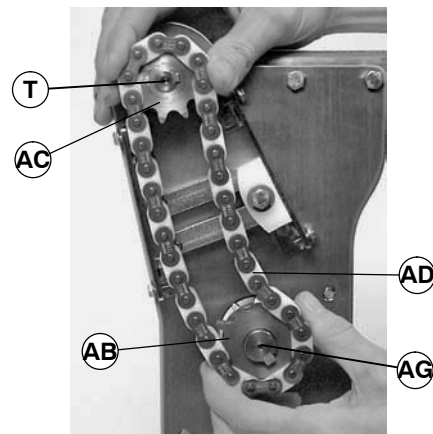

Figure 26
**NOTE:** Make sure sprocket keys are installed on conveyor input shaft (T of Figure 26) and gearmotor output shaft (AG).
6. Install new timing chain (AD) over sprockets (AB and AC). Install timing chain and sprockets on conveyor input shaft (T) and gearmotor output shaft (AG). Do not tighten sprocket set screws.